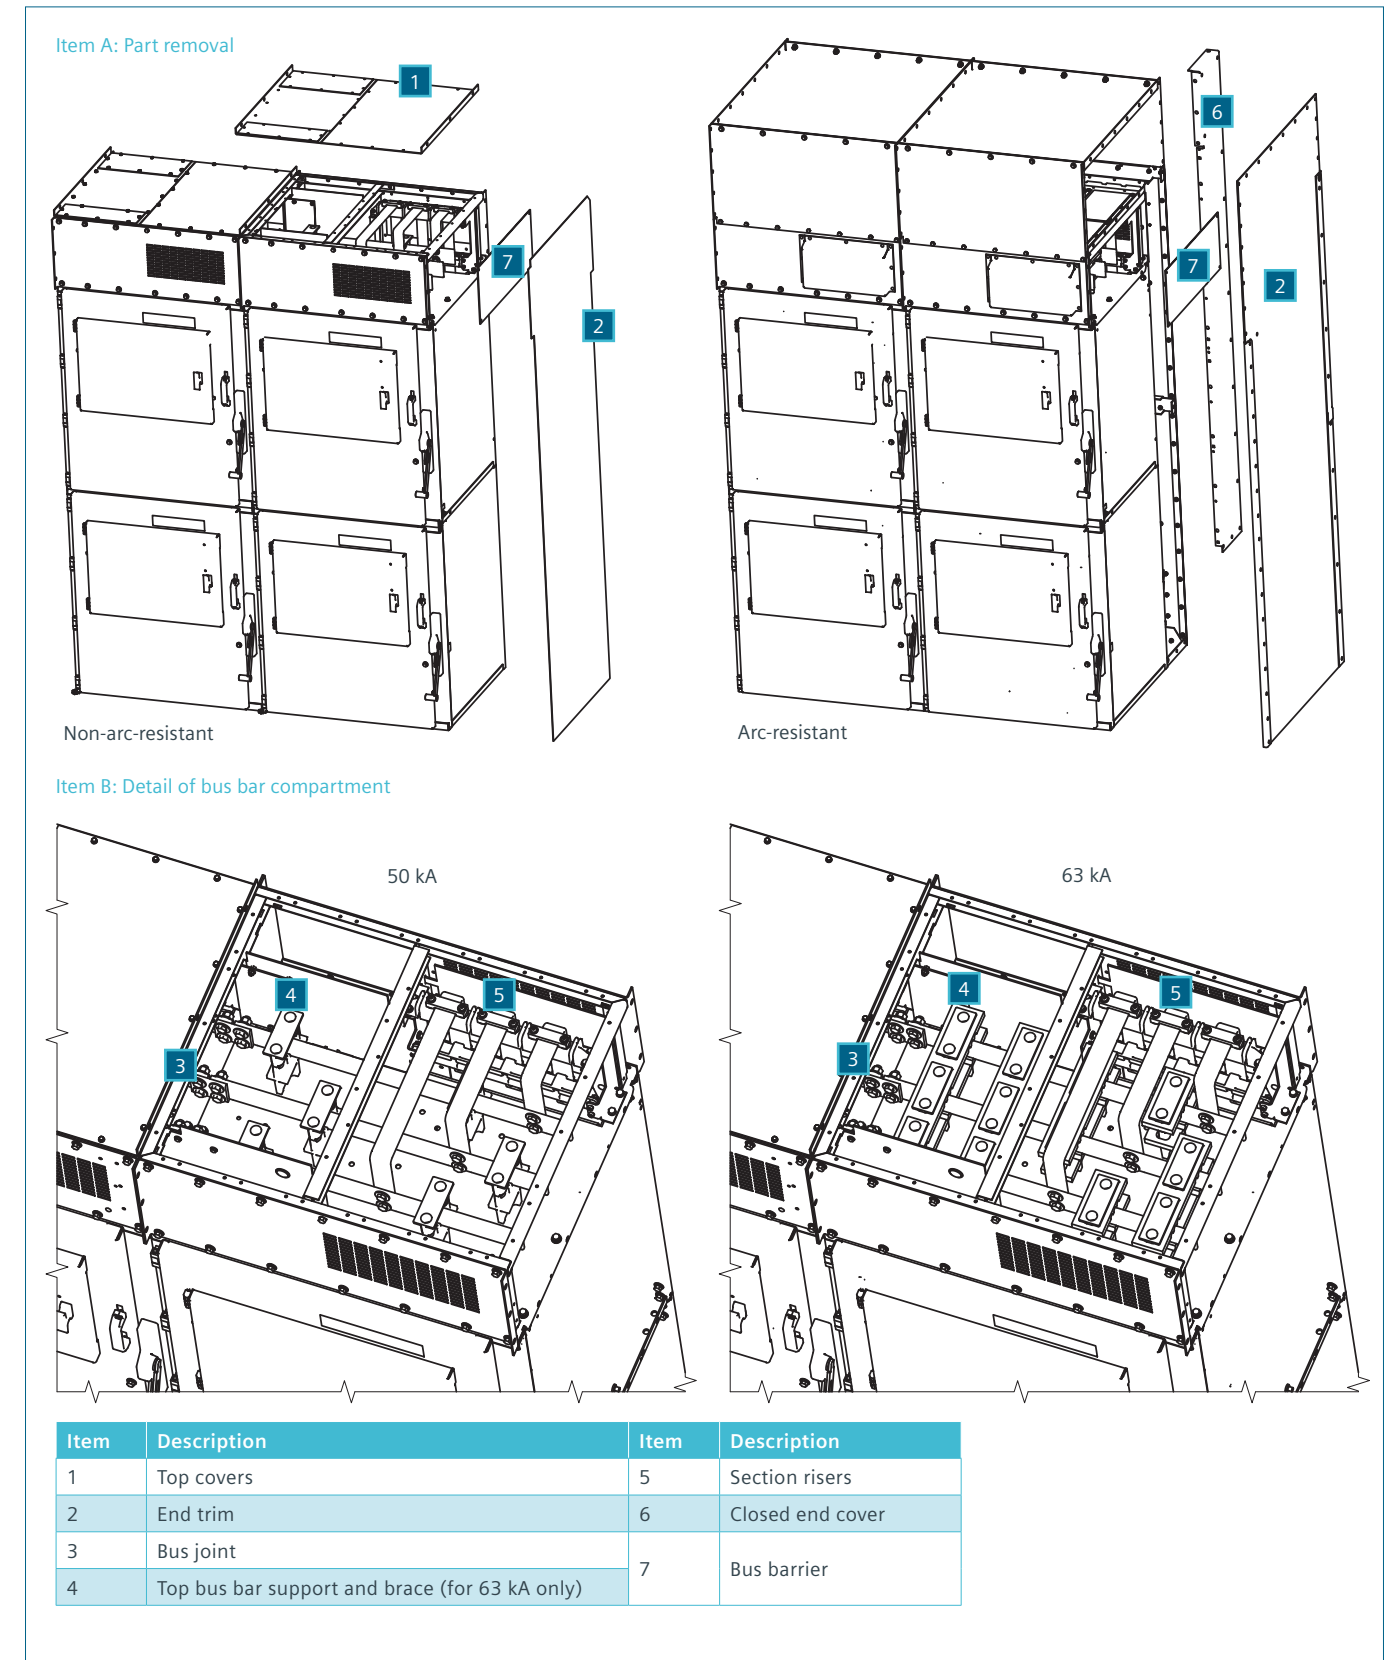

Figure 20: SIMOVAC lineup extension instructions
- Remove the top covers, bus barrier and end trim from the end of the existing lineup. Refer to item A of Figure 20: SIMOVAC lineup extension instructions on page 41.
- Remove the top bus bar supports and save for reassembly in a later step (refer to item B of Figure 20: SIMOVAC lineup extension instructions on page 41).
1. Remove the corner braces, end trim, bus barrier and closed-end cover from the end of the existing lineup. Refer to item A of Figure 20: SIMOVAC lineup extension instructions on page 41.